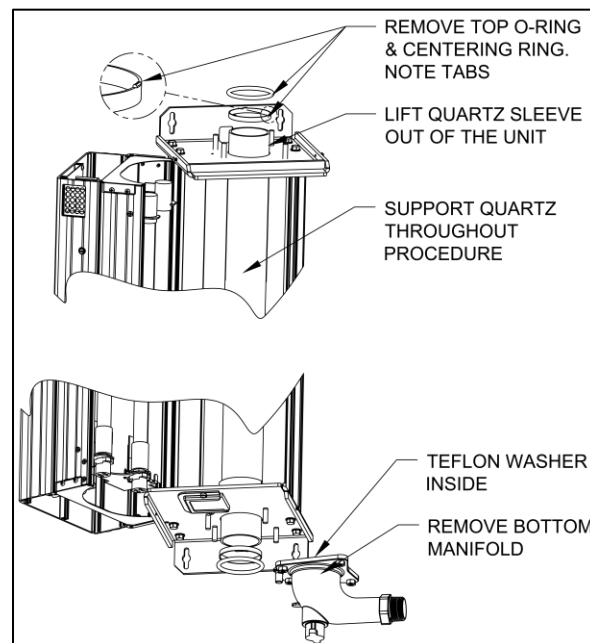

Figure 7-10
4. If the quartz sleeve is still not clean, it requires replacement. This is done by removing the bottom manifold (see Figure 7.10). Replacing a quartz sleeve is easier when the unit is placed on a horizontal surface – removing the unit from the wall to work on a bench is recommended, especially for the UV-H 1000P models.
9. Replace the bottom manifold (see Fig. 7.10) by installing the four nuts in an alternating pattern (top left, bottom right, bottom left, then top right). Check again for Teflon washer.